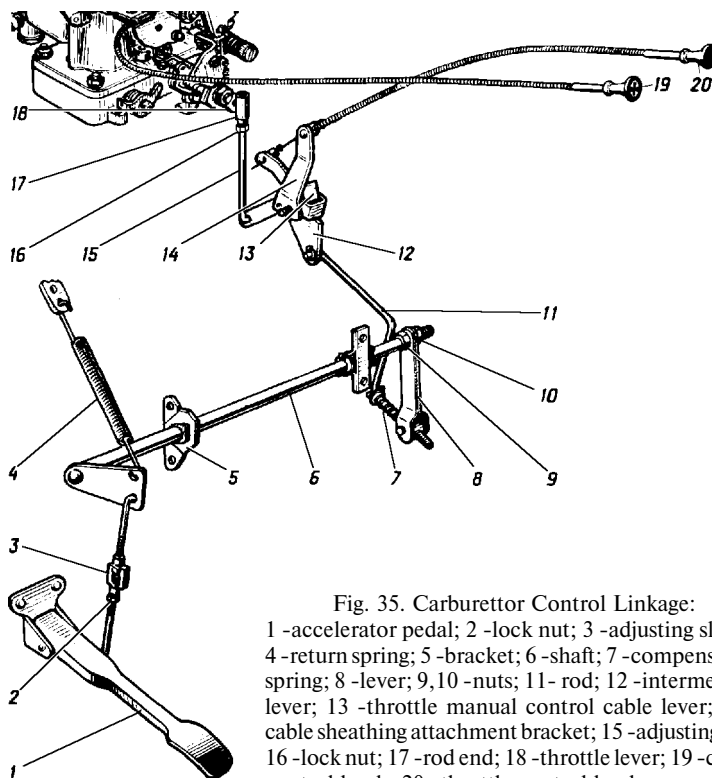

Fig. 35. Carburettor Control Linkage:
**Accelerator pedal.** While in service, it may become necessary to adjust the carburettor throttle full opening and readjust the accelerator pedal position. If the pedal is pressed all the way down and the throttle is not fully open, shorten the pedal rod rotating adjusting sleeve 3 (Fig. 35). Shorten it to such a length that full opening of the carburettor throttle is ensured but compensating spring at the same time is not completely compressed.